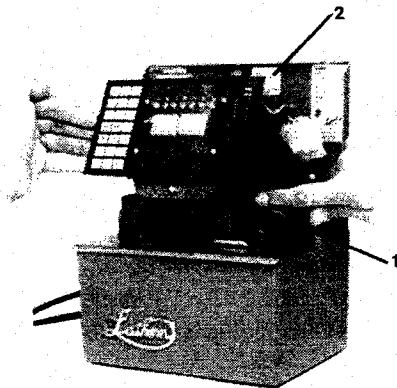

FIGURE 5
3. Press the blue unlocking latch and raise the type section to a locked position, as shown in Figure 5.